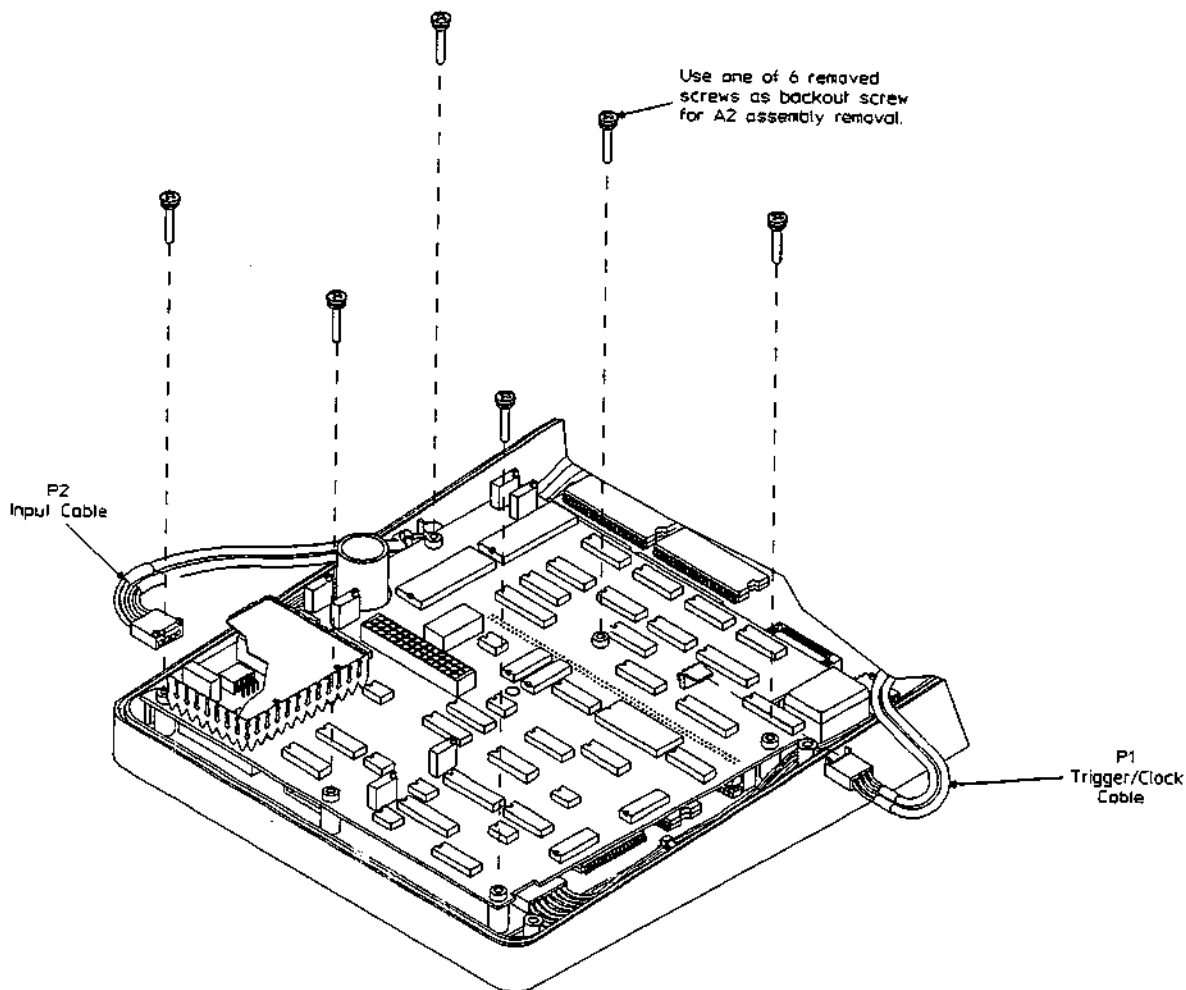

Figure 8-3.
1. Remove the six screws holding the A3 assembly as shown in figure 8-3.
3. Pull the A3 assembly away from the lower assemblies. It may help to place your thumb on the large capacitor shown at the left of figure 8-3 as you pull the A3 assembly up. (You will use one of the six A3 assembly screws as a backout screw for removing the A2 assembly.)